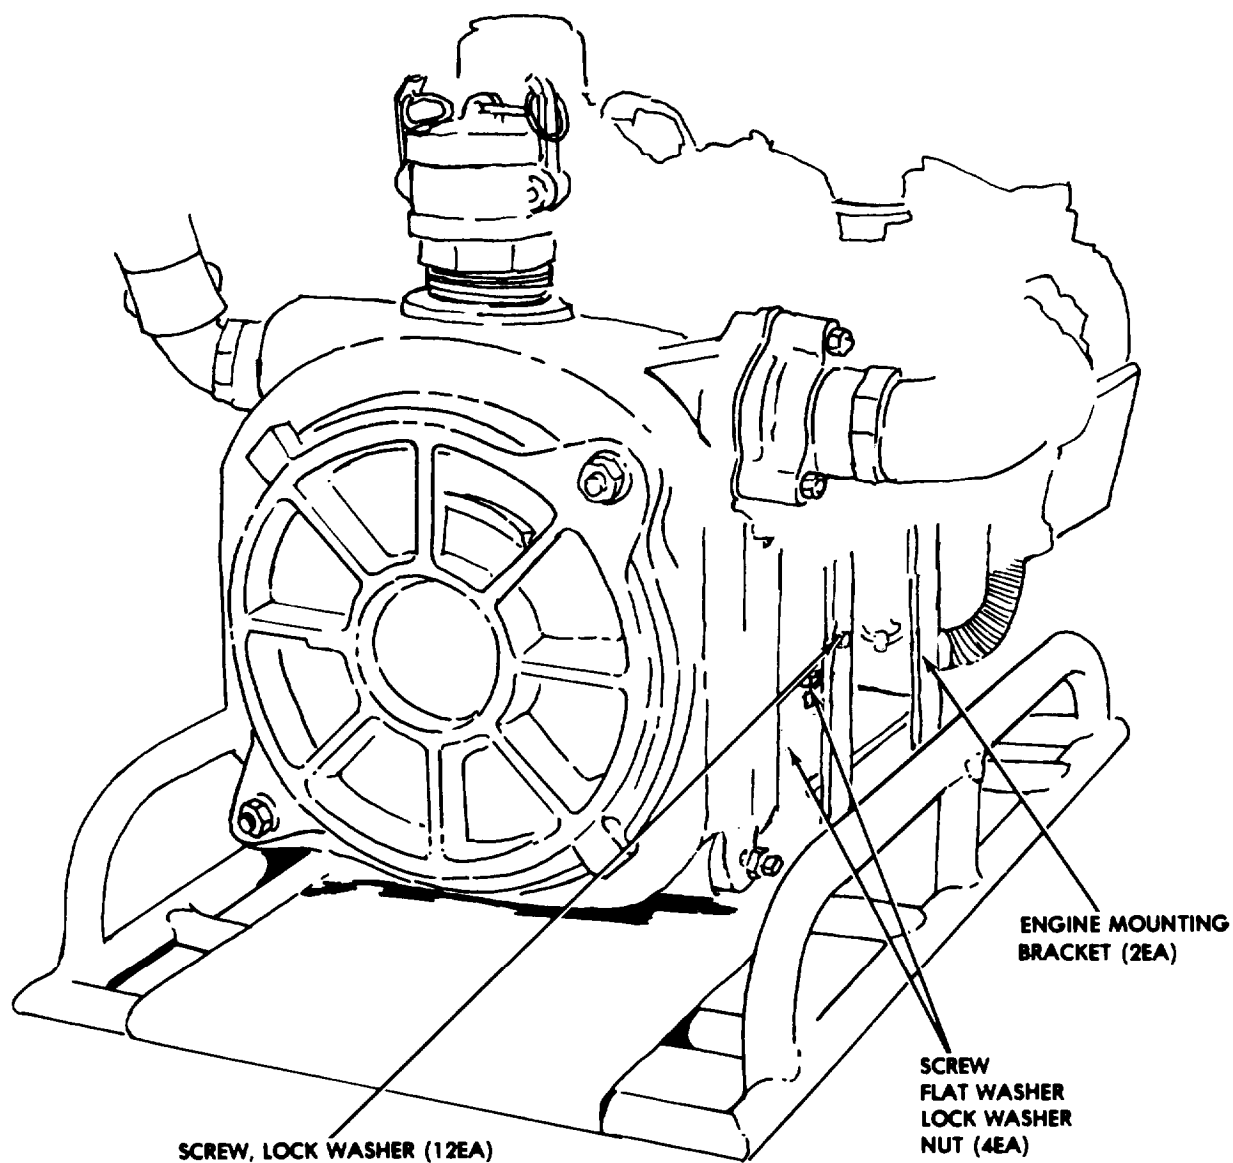

Figure 4-6. Pump and Engine Assembly, Removal from Mounting Base. (Pump side),
(9) To remove pump and engine or pump and motor from base plate first remove four hex bolts, lockwashers, flat washers, and hex nuts (figure 4-6).
(10) To change oil in the engine, remove the four screws, nuts, and washers that hold the pump and engine base plate in place. Slide the pump and engine assembly out far enough so the magnetic oil drain plug can be removed. Remove the plug through the base plate hole and drain the oil into a suitable container. After the oil has drained, replace the magnetic plug and fill the crankcase with the proper amount of oil (item 3, Appendix E). Slide the pump and engine assembly back in place and secure in the reverse order of removal.